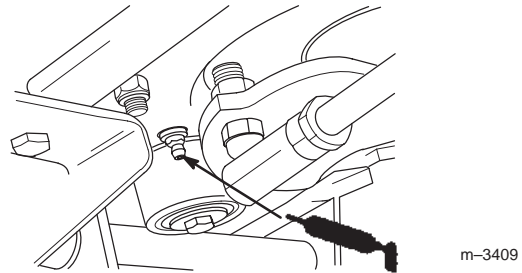

Figure 36
7. If your tractor has manual steering, put one pump of grease into the steering housing (from underneath the frame) (Fig. 36).